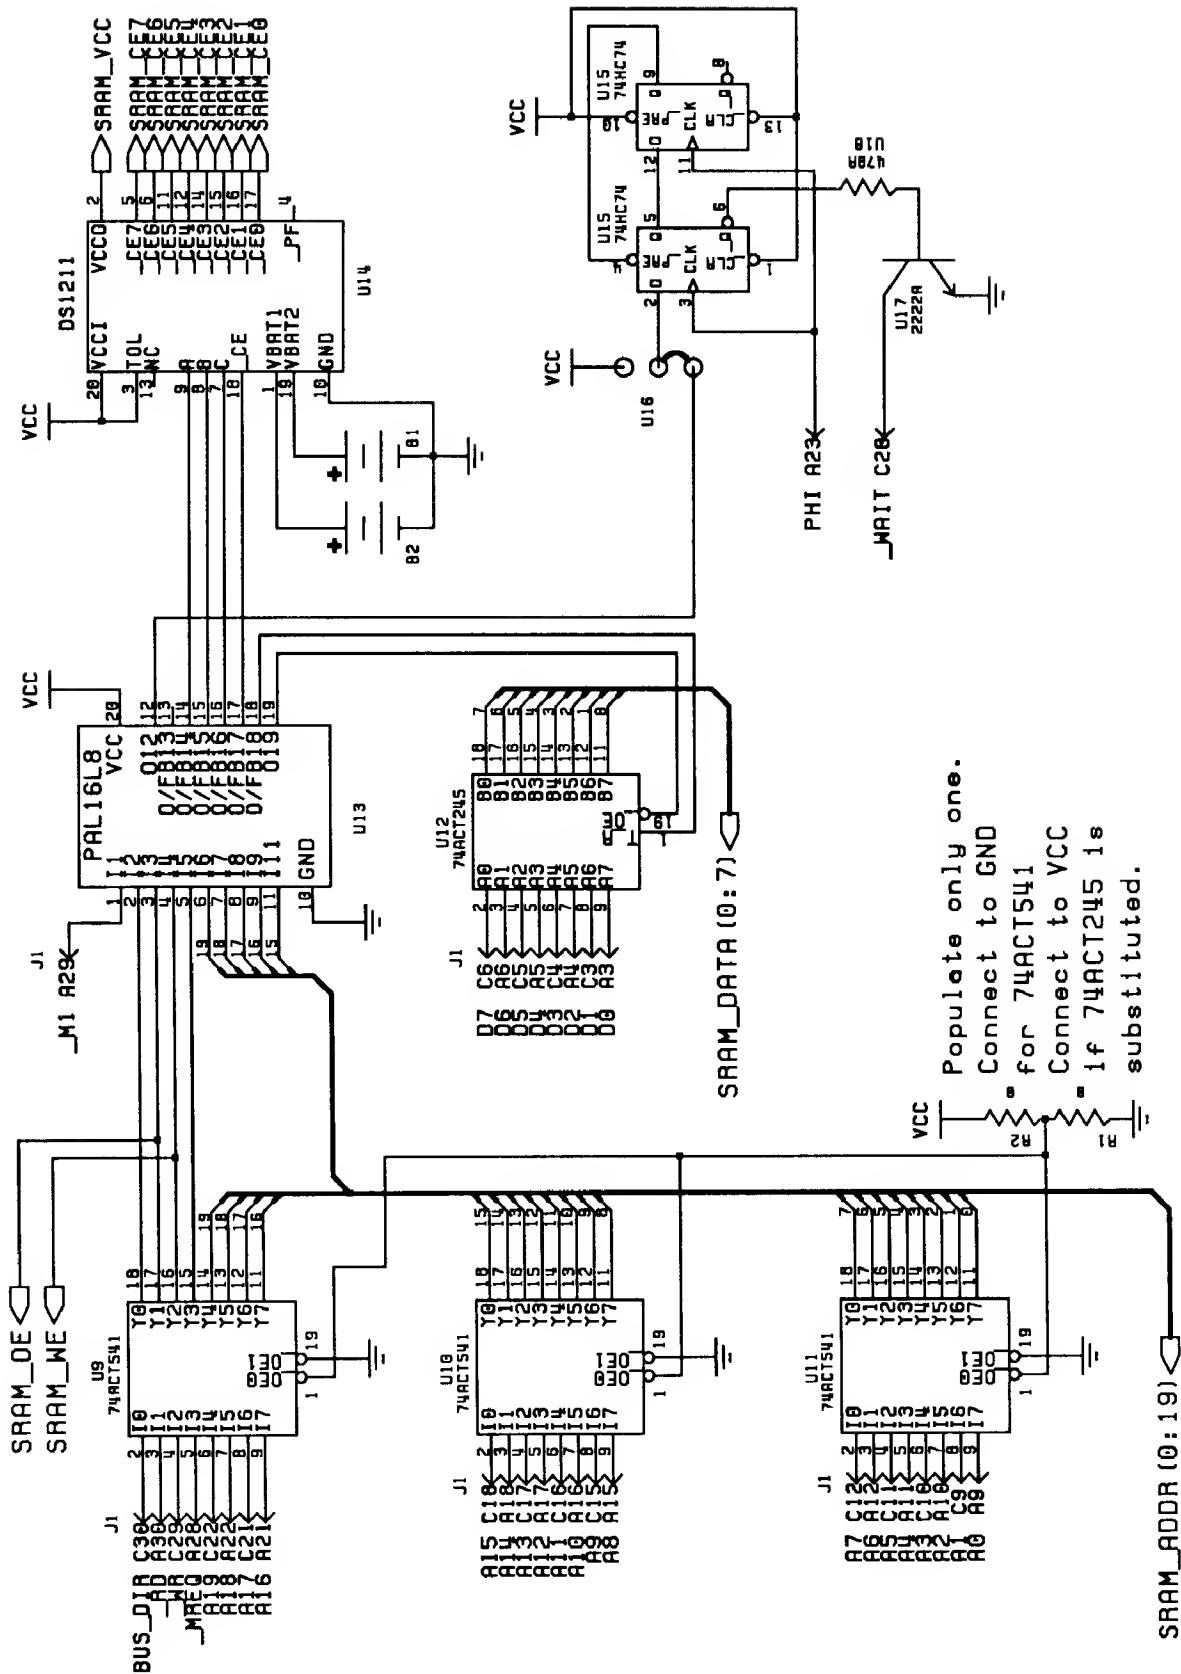

Figure 2: YASMEM Schematic Diagram
*Figure 2* shows a partial schematic of the Yasmem board, the SRAMs were left off to save space. The backplane signals are fully buffered by U9, U10, U11 and U12. U12 driving the bi-directional data bus is a 74act245 while the other three buffers can be 74act245 or 74act541. The 541 is the logical choice for uni-directional signals but since a 245 is required for the data bus these three buffers can optionally also be 74act245 by changing the R1 and R2 jumpers as indicated. The buffered address and data lines go directly to the SRAMs as required. Address lines A15-A19 and the control lines go to the 16L8 pal U13. Using a pal gives the flexibility to change the hardware address decoding as required depending on how the Yasmem is to be configured in your system. The pal does not do absolute address decoding, instead it decodes the desired board address down to three lines, these lines are then passed to the DS1211 (U14) which does a 1-of-8 decode to get the individual